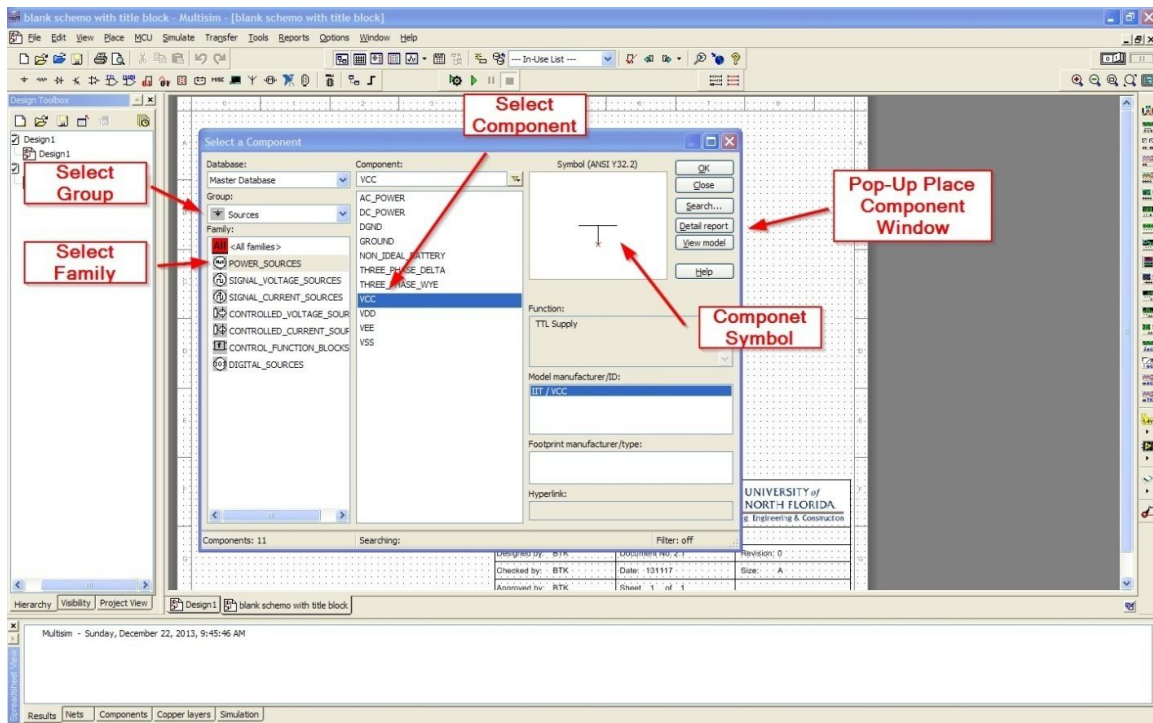

Figure 3. Place Component Pop-Up Window
- 5) Select Component from the Place Menu. This will bring up the Place Component pop-up window. Note the different areas and features of the pop-up window as shown in Figure 3.